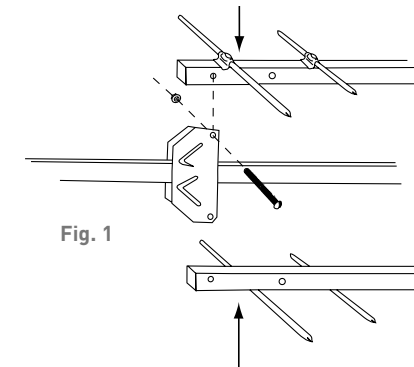

Fig. 1
2. Attach the two reflector booms using the attached nut and bolt so that they are perpendicular to the smaller boom. (See figure 1.)